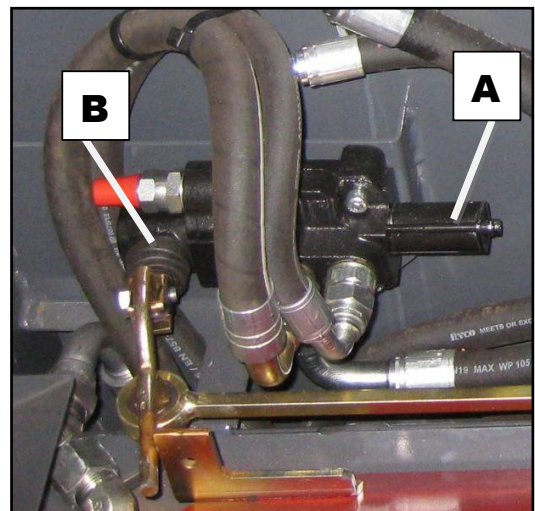

Figure 30
- ❑ To withstand strain and to operate flawlessly, the detent end A, Fig. 30, the spool shifter joint B and the ball joint of the control valve require regular lubrication.